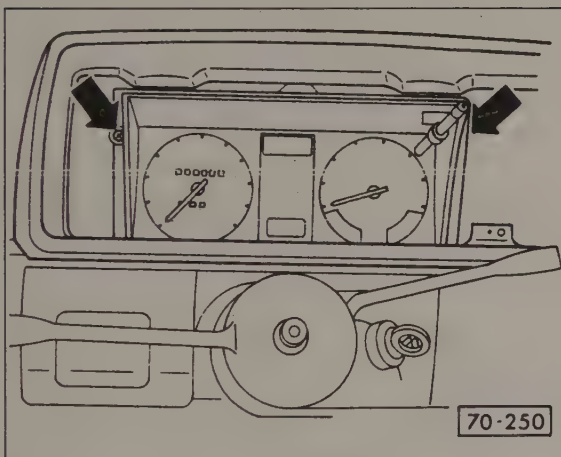

Fig. 4-7. Retaining screws (arrows) to be removed from instrument cluster.
11. Remove the two instrument cluster retaining screws indicated in Fig. 4-7 and partially remove the cluster. On Golf and GTI models, the right screw is behind one of the blank switch covers.